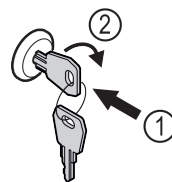

Fig. 162 Example illustration
- ▶ Insert key Fig. 162 (1).
- ▶ Turn key clockwise by 90° Fig. 162 (2).